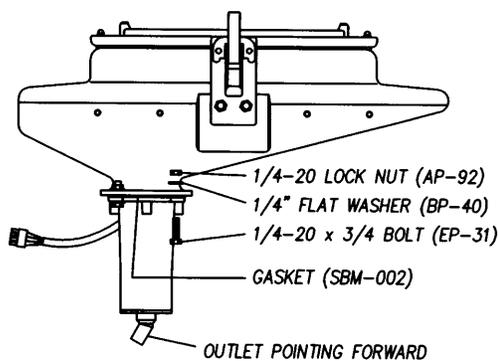

Figure 9
3. Place the 1/4" x 1" bolts up through the meter, base container flange, and washer. Lightly secure with the lock nuts (see Figure 9).